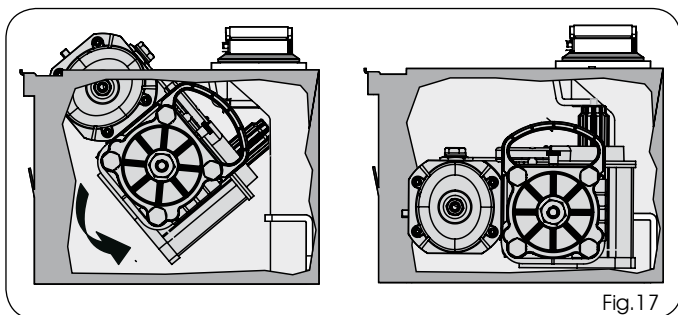

Fig.17
- 9) Using the handles, insert the operator in the bearing case as shown in Fig.17 A,B